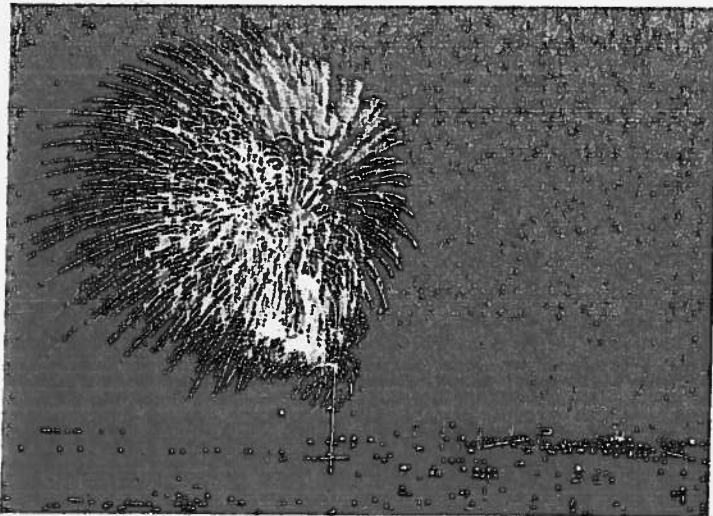

Fig. H-4-1.
- **Rockets, powered by black powder, were probably invented by the Chinese in the eleventh century. They were certainly using them in war in the 1200s. The Chinese also are thought to have invented fireworks. Fig. H-4-1.**